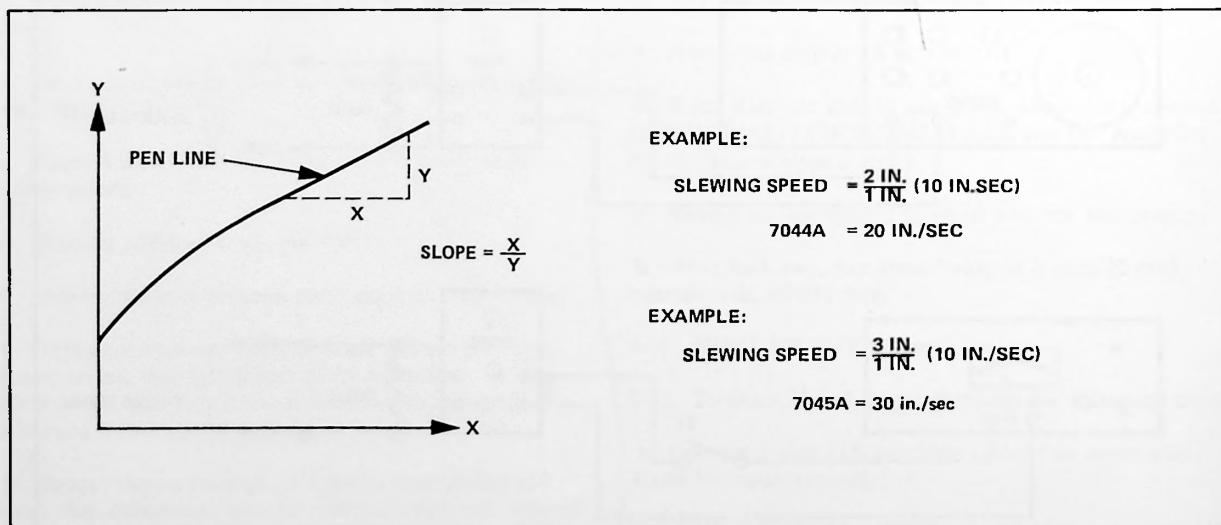

Figure 5-14. X-Axis Slewing Speed – 7044A and 7045A Models
- f. At center of Y-axis travel, close S1 switch. After arm has slewed to full scale, position SERVO toggle switch to STANDBY. Plot in Figure 5-14 indicates pen moves greater than 2 inches in Y direction for 1 inch movement in X direction. Minimum slewing speed = (slope) (10 in./sec = 20 in./sec) for 7044A Model. For 7045A, plot indicates pen moves greater than 3 inches in Y direction for 1 inch movement in X direction. Minimum slewing speed = (slope) (10 in./sec) = (30 in./sec).